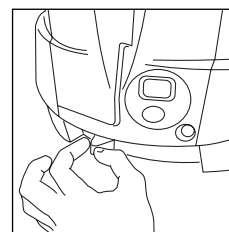

fig. 4
3. Set thermostat switch to the required temperature (fig. 4).